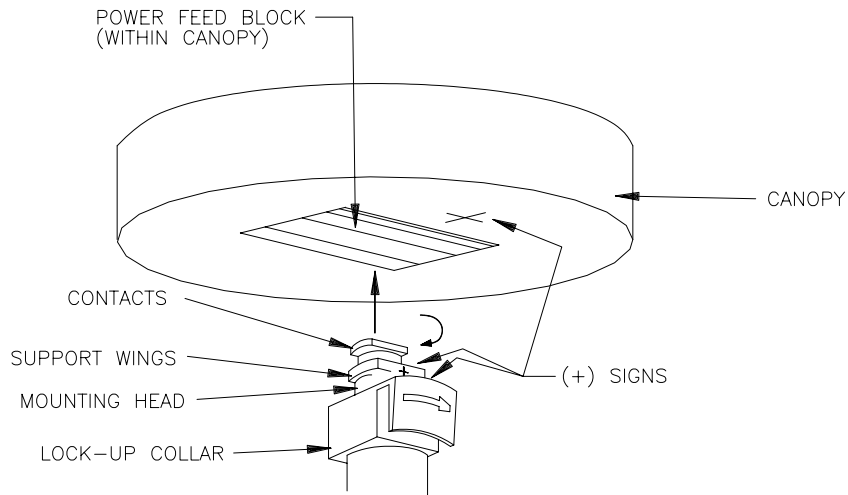

FIGURE 1
- 1.- POSITION THE MOUNTING HEAD WITH SUPPORT WINGS PARALLEL TO THE POWER FEED BLOCK. THE PLUS (+) SIGN LOCATED ON THE MOUNTING HEAD AND LOCK-UP COLLAR MUST BE ALIGNED WITH THE PLUS (+) SIGN LOCATED ON THE CANOPY. (SEE FIGURE 1)
- 2.- PUSH THE MOUNTING HEAD FIRMLY UP INTO THE POWER FEED BLOCK AND TURN IT 90° CLOCKWISE TO ENGAGE THE MOUNTING HEAD CONDUCTORS WITH THE POWER FEED BLOCK CONDUCTORS. (SEE FIGURE 1)